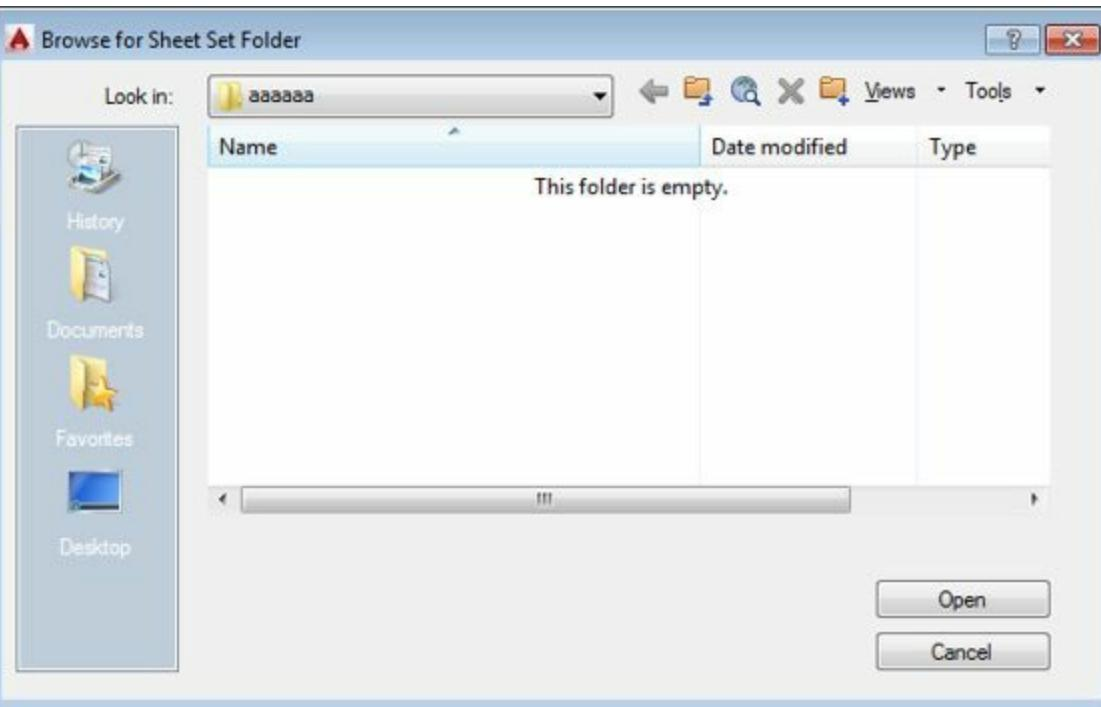

Figure-23. Browse for Sheet Set Folder dialog box
- Click on the **Browse** button next to **Store sheet set data file (.dst) here** edit box. The **Browse for Sheet Set Folder** dialog box will be displayed as shown in Figure-23.